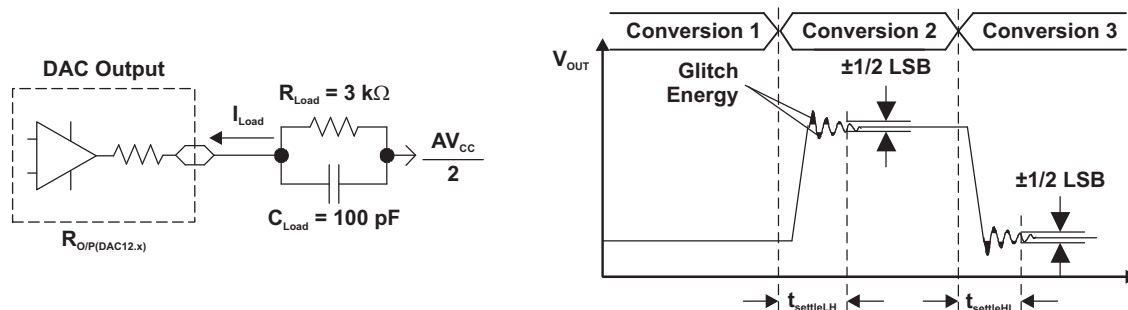
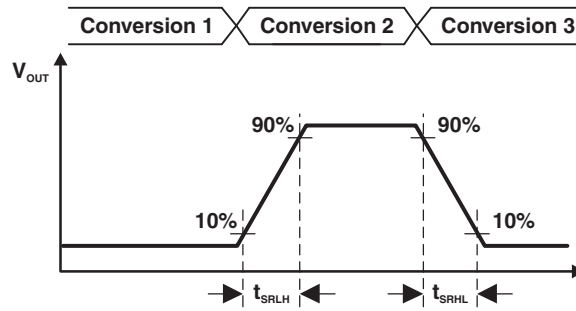

Figure 20. Settling Time and Glitch Energy Testing
Figure 21. Slew Rate Testing
VREF = VCC, DAC12IR = 1 (see Figure 20 and Figure 21), over recommended ranges of supply voltage and operating free-air temperature (unless otherwise noted)
- (1) RLoad and CLoad connected to AVSS (not AVCC/2) in Figure 20.
- (2) Slew rate applies to output voltage steps ≥ 200 mV.